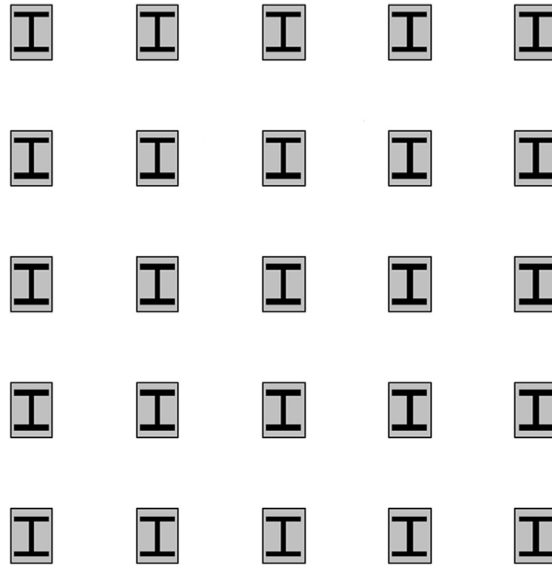
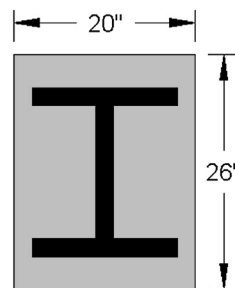

FIGURE 8.12
FIGURE 8.13
The idea behind a rectangular array is not fundamentally different from a polar one. We are looking to replicate objects, but this time in rows (horizontal) and columns (vertical). In 3D, you can also do levels, which we do not address here. An example, as shown in Figure 8.12, may be columns of a warehouse. If they are spread out evenly, then this is the perfect tool for this. You simply draw one I-beam column, make a block out of it, and array it up and across the appropriate area.
The first thing to do is to draw a convincing-looking I-beam. Because we need actual distances, you cannot just randomly draw any object; use known sizing this time around. With one of the columns in Figure 8.12 as a model, create a 20" wide by 26" tall rectangle. Inside of it, put an I-beam drawn with basic linework and a solid hatch fill, and shade the background a light gray (Figure 8.13). Finally, make a block out of it. That sets up the column for an array.
- Step 6.** If using the command line, you just have to follow the prompts for Columns, Rows, and Spacing. Regardless of which you start with (Rows or Columns), AutoCAD asks you for the spacing as needed. Press Enter when done. Your rectangular array should look like Figure 8.12.